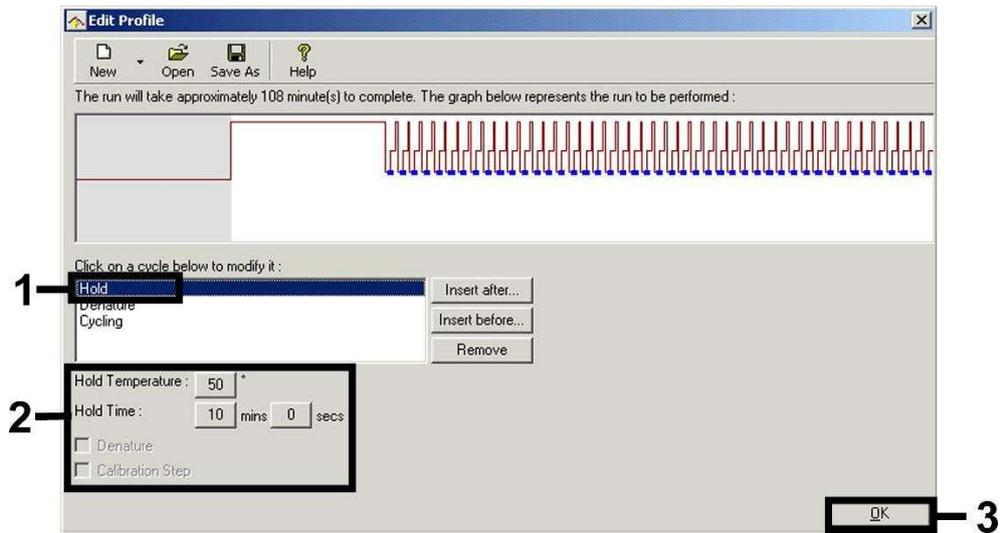

Fig. 4: Reverse Transcription of the RNA.
- B. Reverse Transcription of the RNA Fig. 4
Programming the temperature profile is done by activating the button *Edit* in the next *New Experiment Wizard* menu window (see Fig. 4, 5 and 6).